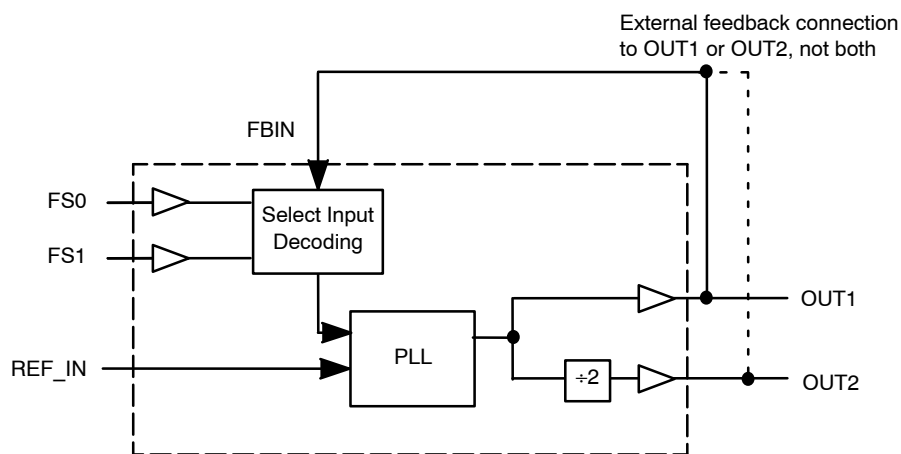

Figure 1. Simplified Logic Diagram
10. While in lock, propagation delay is measured from REF_IN to OUT1 using < 1 in feedback trace, (See Figure 1).